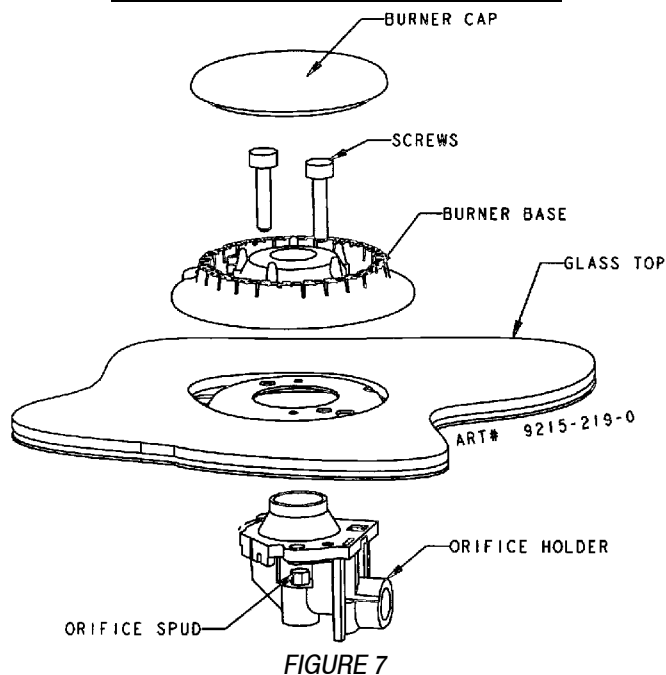

FIGURE 7
(See figure 7).
**Step 3:** Firmly press 9/32" (or 7mm) nut driver over the orifice spud (figure 7) and loosen spud by turning counter-clockwise. Carefully lift nut driver out of burner throat. Orifice spud should be captured in the recess. Repeat this step for each burner.